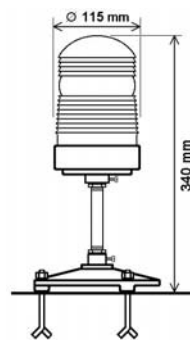

FIG 1
- Ground level mounting on Long Frangible Tube (Fig 1).